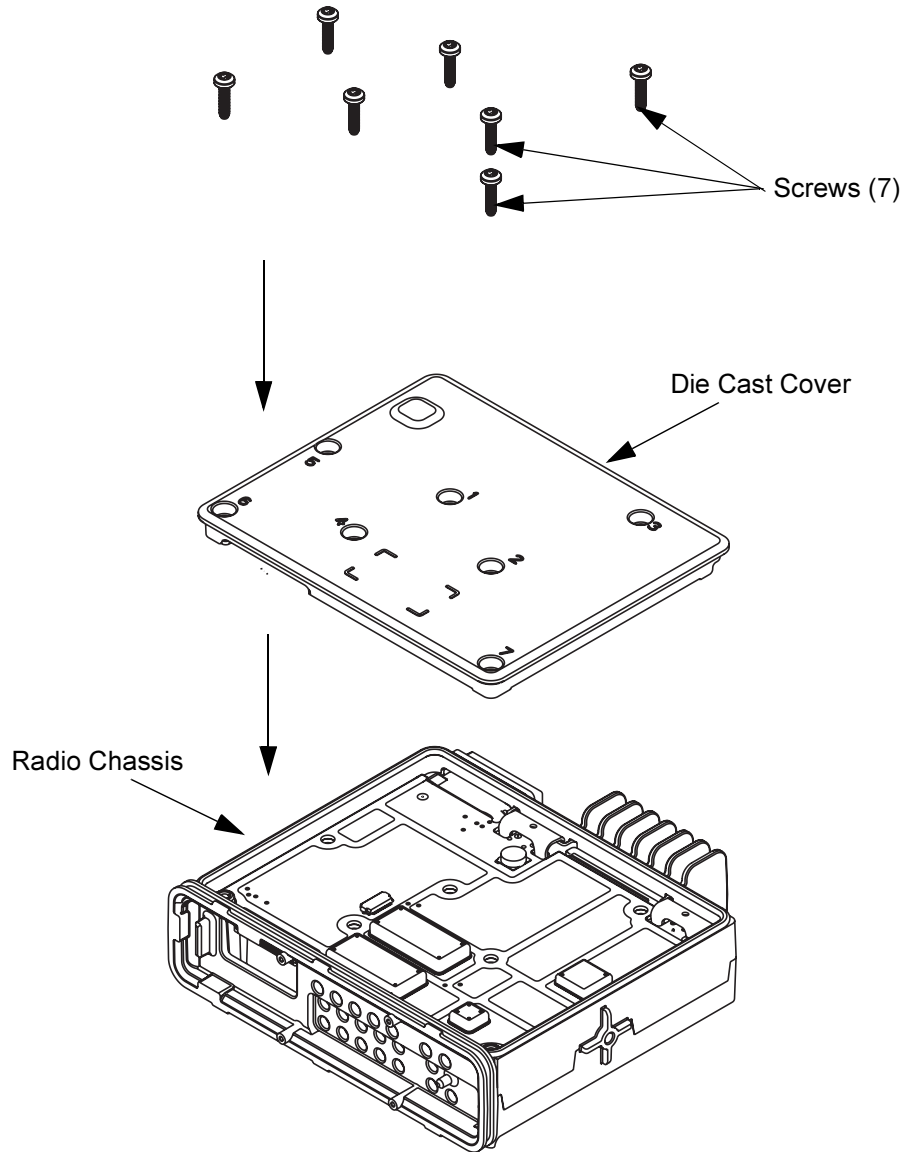

Figure 5-18. Assembling Die Cast Cover onto Chassis
- Place the die cast cover onto the chassis orienting the die cast cover so that screw holes 6 and 7 align with the bosses on the chassis as shown in Figure 5-18.